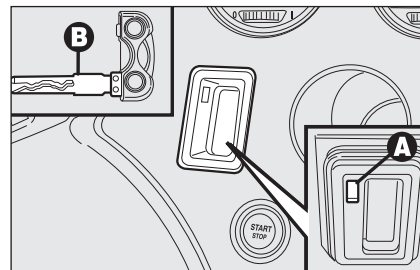

fig. 1
- fit the metal insert **B-fig. 1** of the electronic key into the slot **A**;
IMPORTANT Only fit the metal insert **B** of the electronic key into slot **A-fig. 1**.